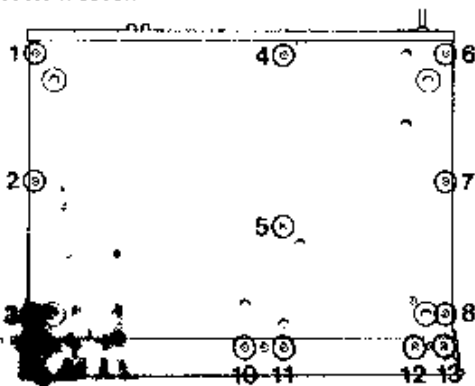
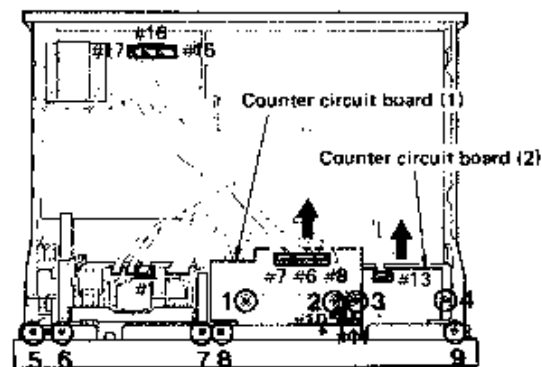
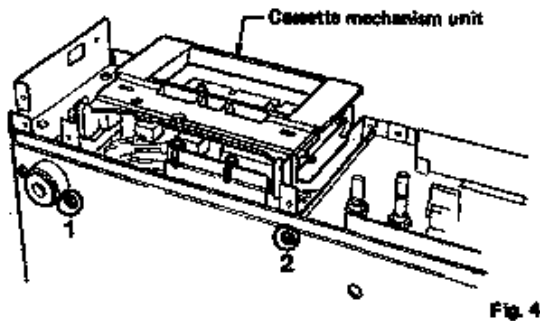

Fig. 2
Fig. 3
Fig. 4
Remove screws ① through ⑩ in fig. 2 and then remove the bottom cover.
- c. Remove screws ① and ② in fig. 3 and pull out the counter circuit board (1) backward gently (connected to the front panel by connectors.)
- d. Remove screws ③ and ④ in fig. 3 and pull out the counter circuit board (2) backward gently (connected to the front panel as well as counter circuit board (1).)
- f. Remove screws ⑤ through ⑬ in fig. 2 and screws ⑪ through ⑬ (yellow screws only) in fig. 3, and then pull out the panel forward gently.
- Remove screws ① and ② in Fig. 2 and screws ③ and ④ in Fig. 3 and screws ① and ② in Fig. 4, and then pull out the cassette mechanism unit backward gently.